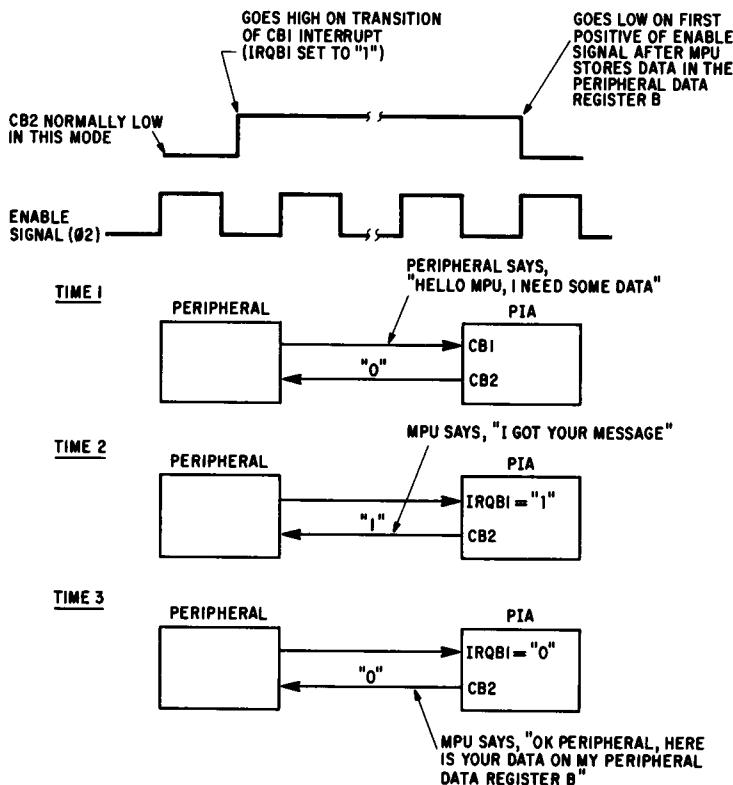

Fig. 9.19 Handshake mode
1. *Bits 5, 4, and 3 of CRB = 100 (Handshake Mode)* This mode is used when the MPU sends data to a peripheral device. The peripheral must tell the MPU it is ready for the data. After the MPU sends the data to peripheral data register B, it sends a signal to the peripheral telling it that the data is available at that register. After the peripheral takes the data, it can request more data, and the sequence is repeated. The typical sequence (see Fig. 9.19) is as follows: